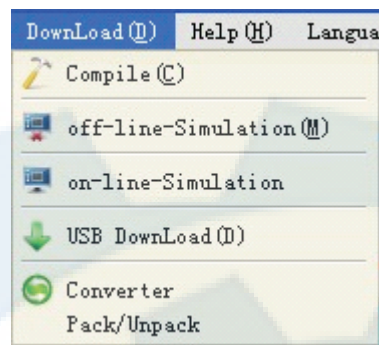

Figure 2-35: Download menu
“Download” menu is used to compile and download configuration project, consisting of four commands, that is Compile (C), Off-line Simulation (M), USB Download (D) and Compile + Download (A). After the touch screen is connected to PC via USB cable, you can download the configuration project to the touch screen after compiling the configuration project. See Figure 2-35: